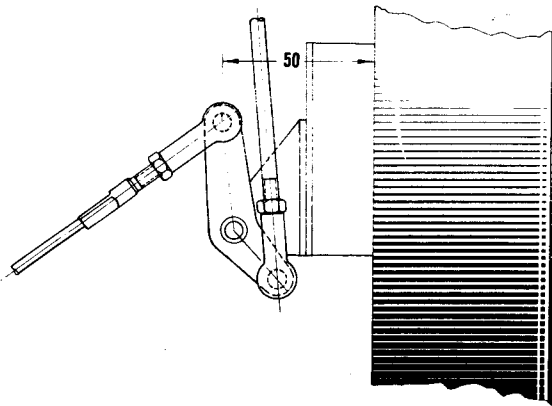

Fig. 8
2. Adjust accelerator rod between bell crank on the fan housing, see Fig. 8, and the bell crank on the transmission housing so that the distance from the rotation center to the ball joint center is 20 to 21 mm (see Fig.)